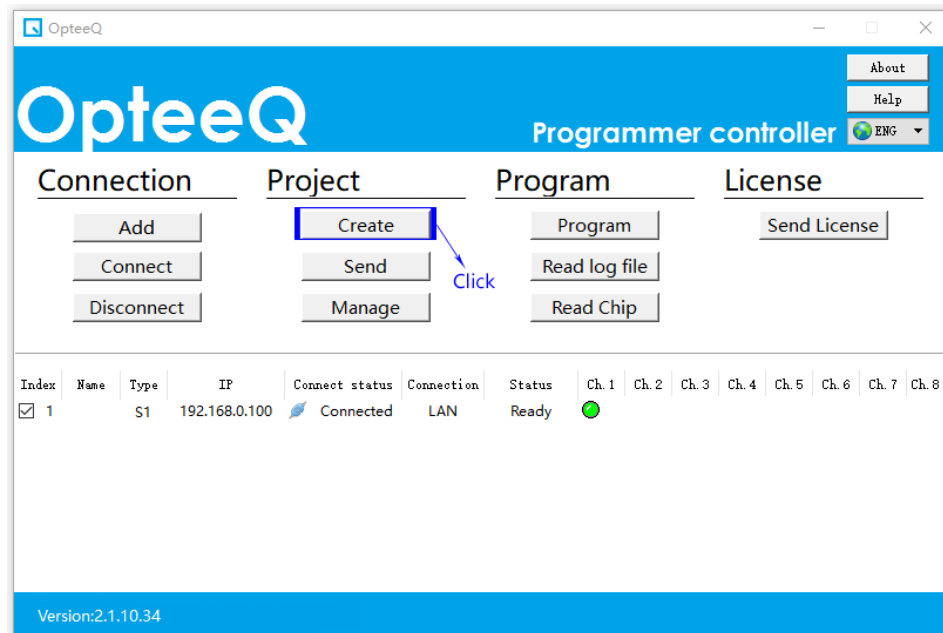

Figure 4.11: Step 1 - Project Creation
1) Step 1: Click "Create" (as shown in Figure 4.11).